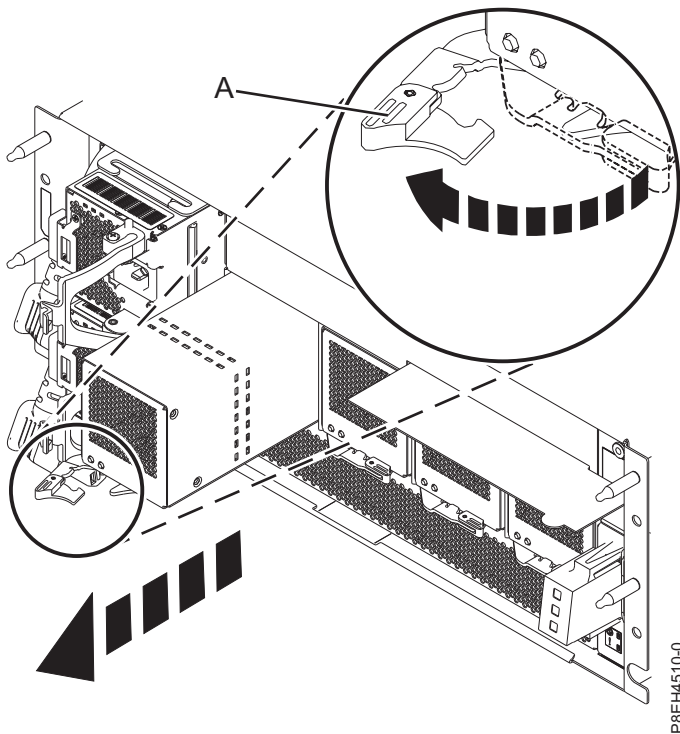

Figure 5. Unseating the fan from the EMX0 PCIe3 expansion drawer
5. Rotate the fan handle (A) in the direction shown in Figure 5.